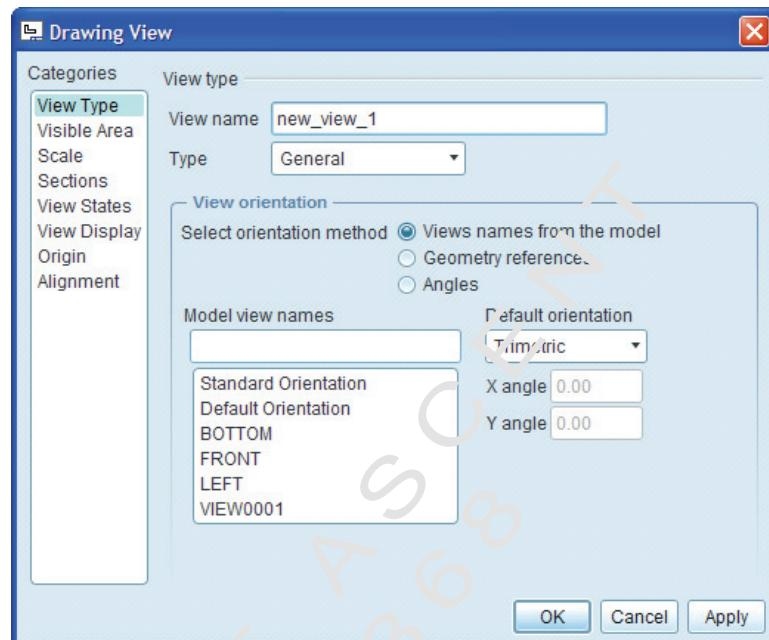

Figure 1–55
4. Select the top right corner of the drawing sheet to define the centerpoint for the drawing view. The Drawing View dialog box appears as shown in Figure 1–55.
5. Select **Default Orientation** in the Model view names section and click **OK**. The drawing model appears as shown in Figure 1–56 in its default orientation.